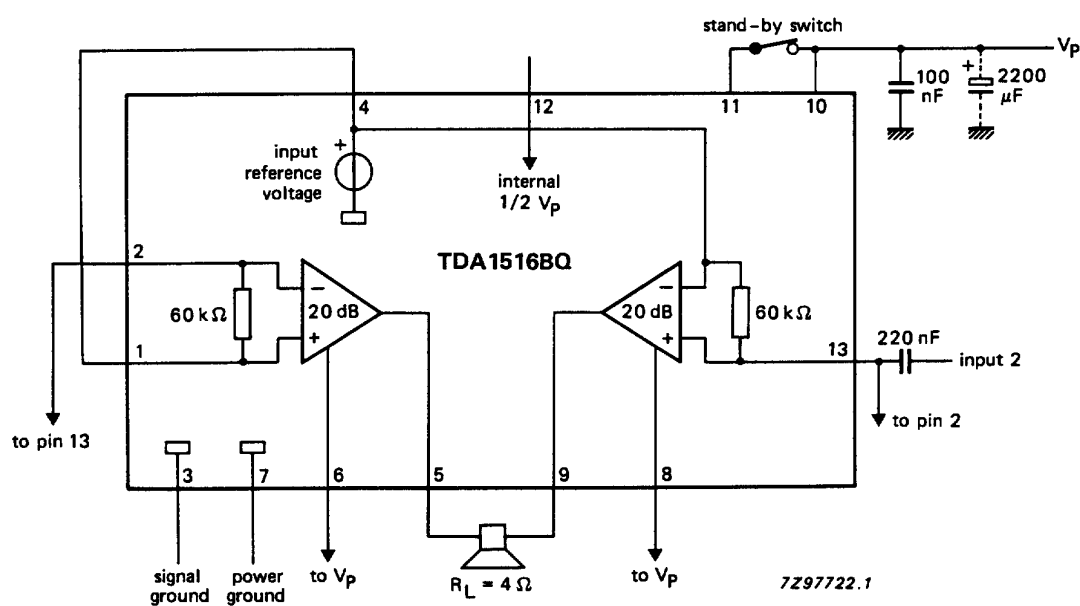

Fig.4 BTL application circuit diagram (without bootstrapping).
10. All characteristics, for BTL application are measured using the circuit shown in Fig.4.